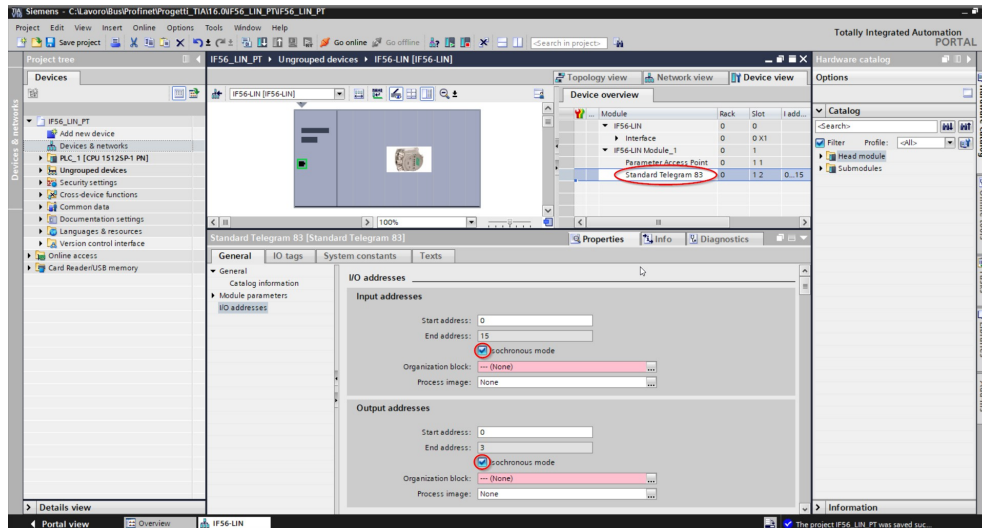

Figure 59 - Setting the isochronous mode for the telegram
6. now in the **Device overview** working area select the telegram you have installed (Standard Telegram 83 in Figure 59);